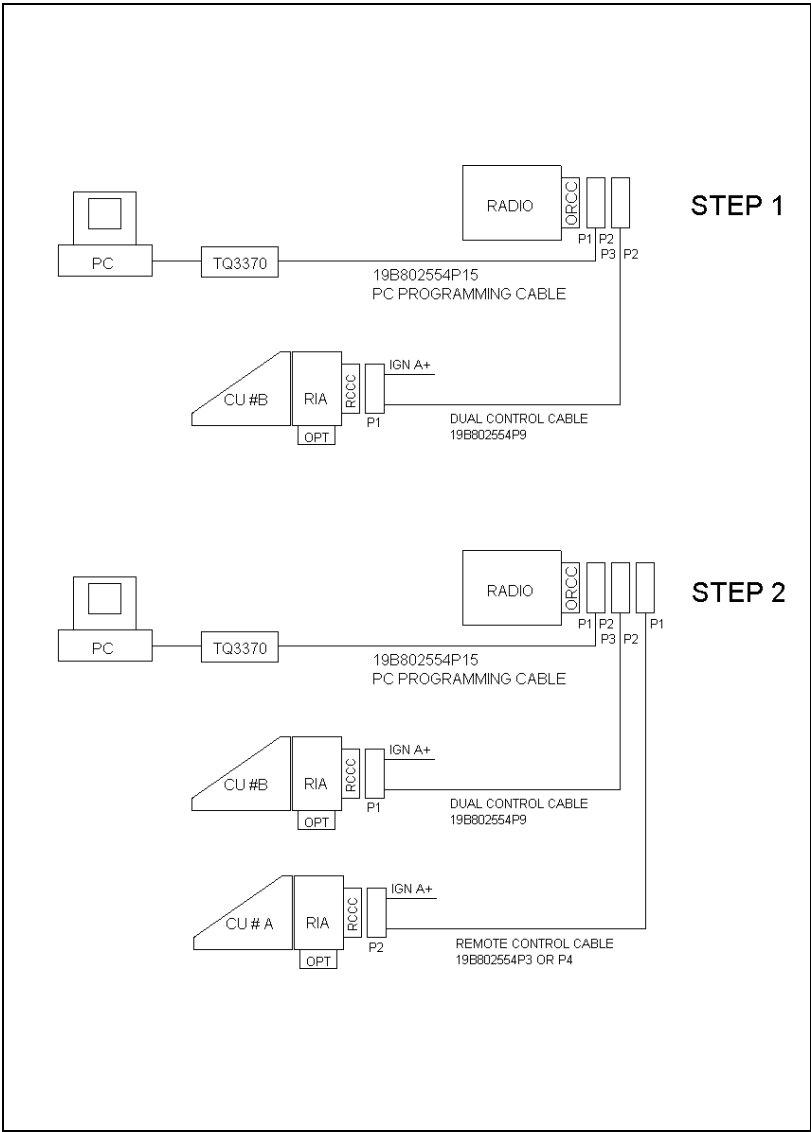

Figure 32 - ORION Dual Control Unit PC Programming Configuration Remote Mount
- 1. Configure the ORION Remote Mount Radio and Auxiliary Control Unit with the PC Programming Assembly, as shown in Figure 32, Step 1. Program the radio with the following files:
- 2. Now configure the Remote Mount Radio, the Main Control Unit, and the Auxiliary Control Unit together with the PC Programming Assembly, as shown in Figure 32, Step 2. Program this configuration with the following files: